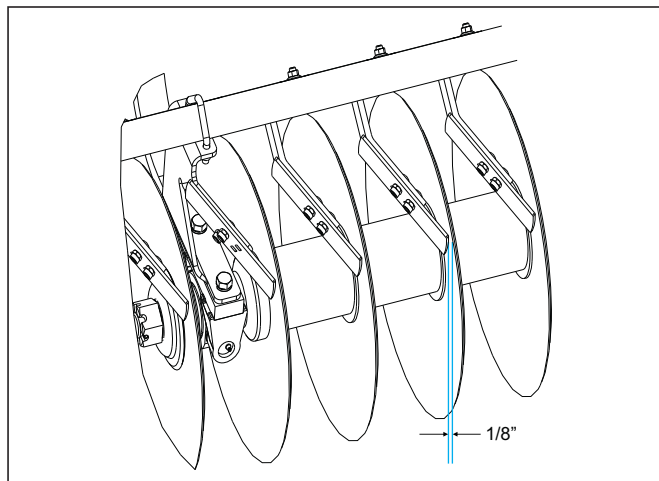

Figure 4-14: Scraper Adjustment
1. Rigid scrapers should be set initially as close to the disc blade as possible without rubbing (approximately 1/8") **See Figure 4-14**. A slotted hole at the top of each scraper is provided for individual adjustment. Adjustments may be made for entire gangs, by loosening the u-bolts around the angle-iron scraper bars and sliding the whole bar. Scraper arms are made of spring steel. In wet conditions, the scraper may be set against the disc blade and can function as a spring-loaded scraper.